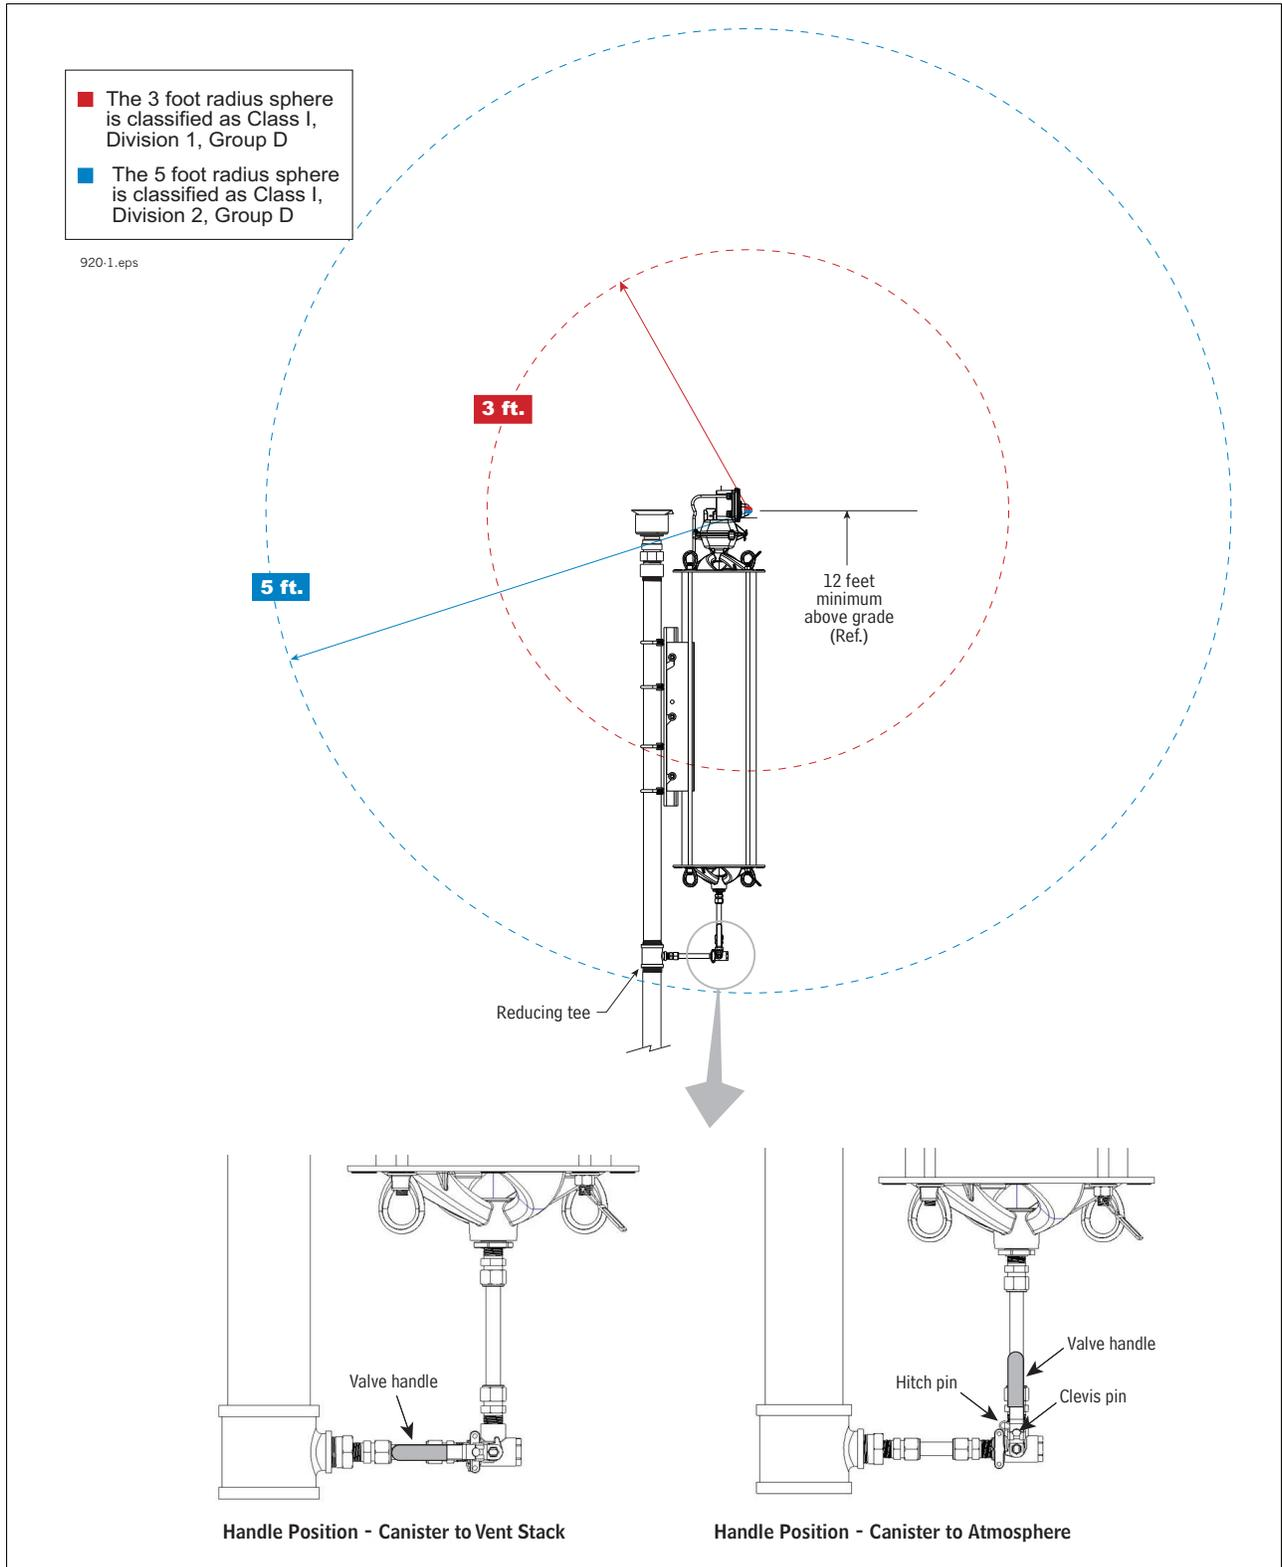

Figure 3. Canister reference dimensions and clearances
8. Figure 3 shows important reference dimensions and required clearances of the installed canister.
15. Confirm ball valve is in the open, canister to vent stack position (per Figure 3), then insert the clevis pin and secure with the hitch pin.